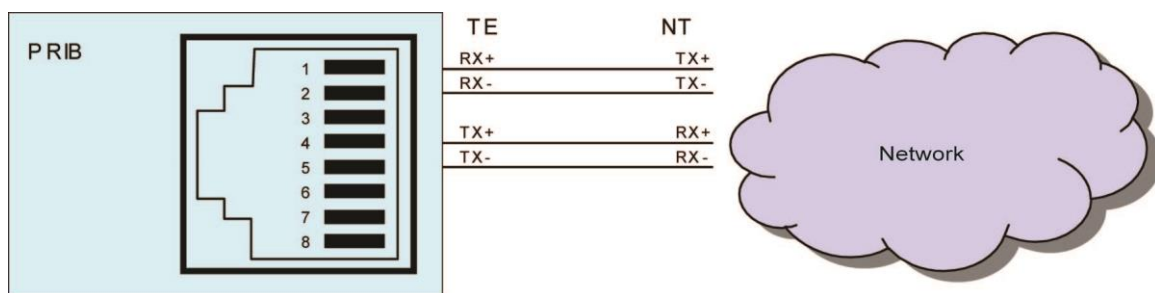

Figure 4.3.4.3-1 T1-PRIB Connector Wiring Diagram
- 2) Insert and loop the RJ45 terminated cable for the T1-PRIB through the core as shown in Figure 4.3.4.3-1.
Refer to the pin-out chart and Figure 4.3.4.3-1 E1-PRIB Connector Wiring Diagram below,